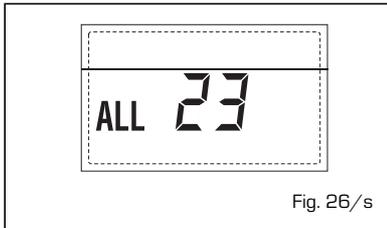

Fig. 26/s
- **ANOMALIA GUASTO SONDA COLLETTORE SOLARE S1 "ALL 24"** (fig. 26/t)